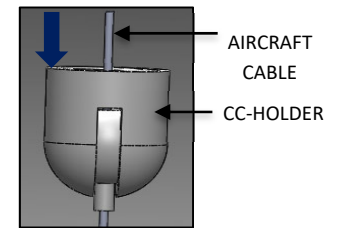

FIG. 21 - SS ROPE CABLE INSTALLATION
- Feed the AIRCRAFT CABLE through the CC-HOLDER. Adjust the AIRCRAFT CABLE to the desired length and place it aside as shown in FIG. 21.